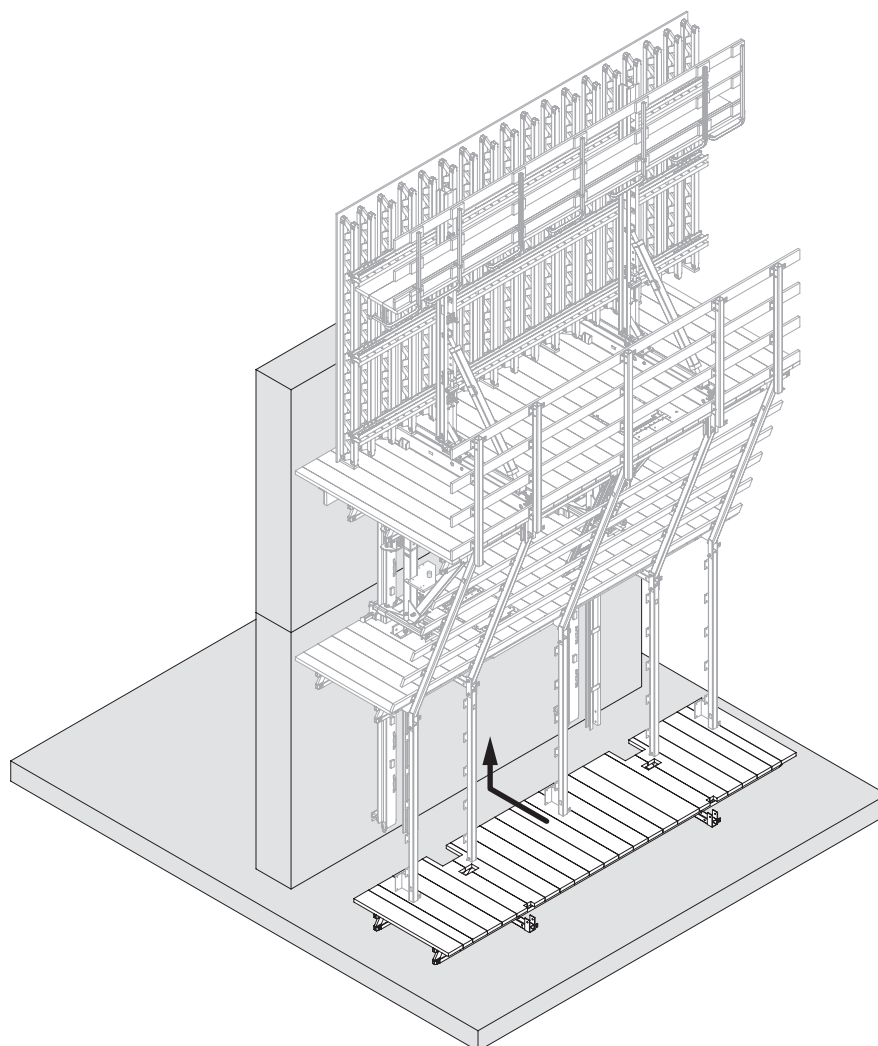
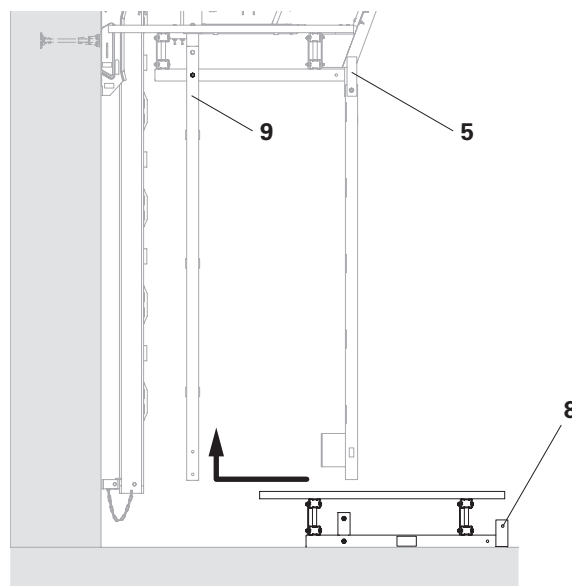

Fig. C6.10
Fig. C6.11
8. Raise the finishing platform and screw all posts to the Finishing Platform Beam ACS (8) with the attached assembly materials.
- (Fig. C6.10 + C6.11)
9. Screw the Finishing Platform Vertical 500 ACS (9) 1x onto the Climbing Platform Beam ACS (5) using the attached assembly materials.
- (Fig. C6.11)